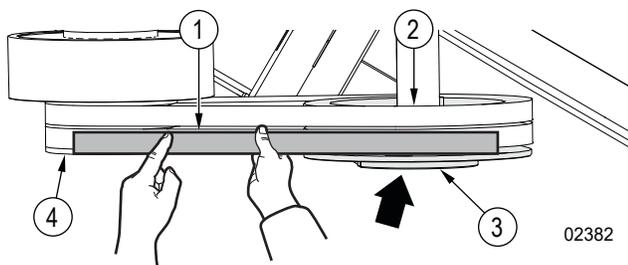

Figure 42—Align the rotor sheave
- If the edge of the engine clutch flywheel is parallel to the straight-edge tool, but is not aligned with the rotor sheave, align the rotor sheave. See *Figure 42 on page 56*. For instructions, see *Align the Rotor Sheave on page 59*.